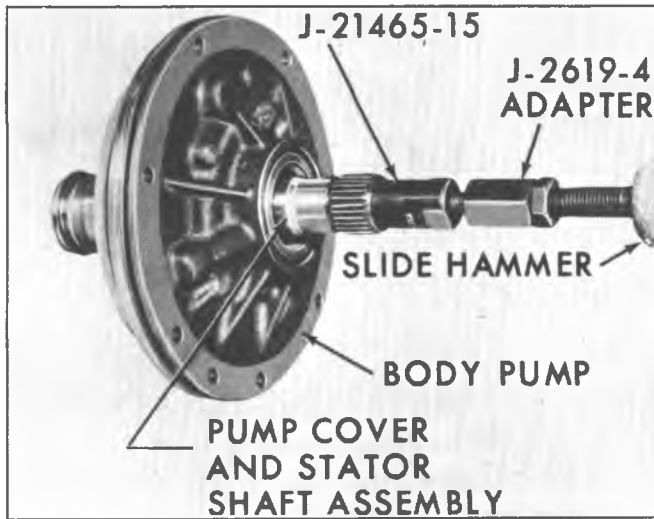
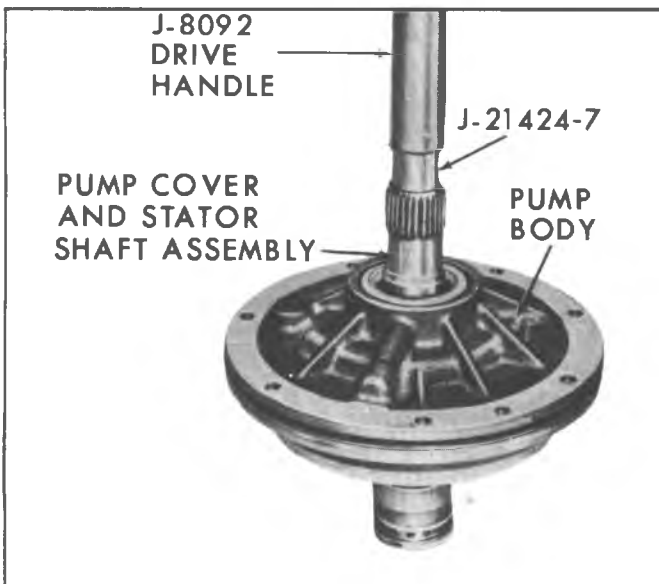
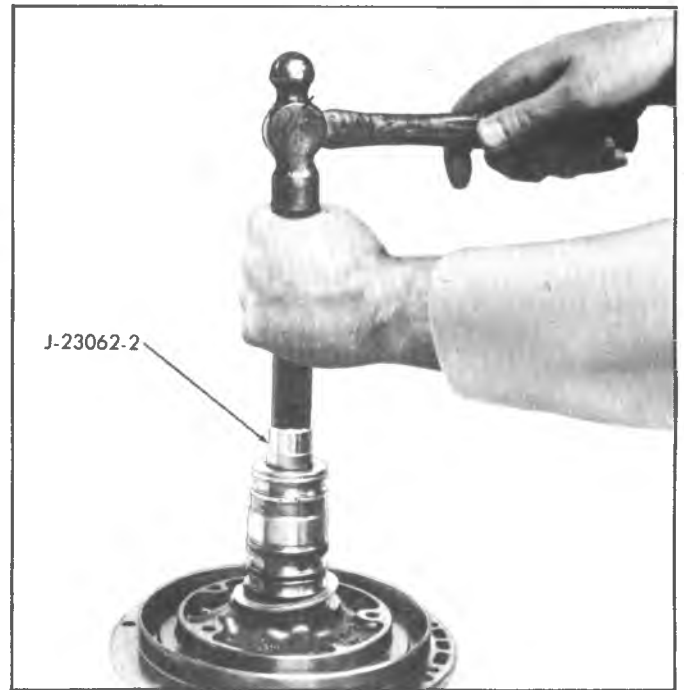
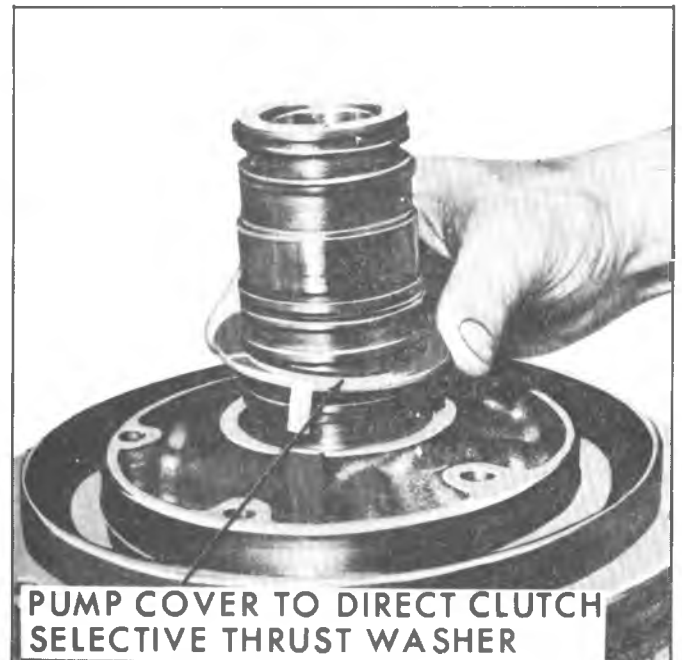

Fig. 90N--Removing Stator Shaft Front Bushing
Fig. 91N--Installing Stator Shaft Front Bushing
Fig. 92N--Installing Inner and Outer Stator Shaft Bushing
Fig. 98N--Pump Cover to Direct Clutch Selective Thrust Washer
With stator shaft properly supported, remove front bushing using tool J-21465-16 and slide hammer with adapter J-2619-01 (fig. 90N). Using tool J-21242-7 and drive handle J-8092, install bushing to .250" from face (fig. 91N).
With stator shaft properly supported, remove front bushing (fig. 92N). Place tool J-21424-7 and drive handle J-8092 with extension J-21465-13 through front of stator shaft and drive out two (2) rear bushings. Using tool J-23062-2 and extension J-21465-13, install inner bushing to approximately 1-5/32" below front face and outer bushing 3/32" below front face (fig. 98N). Install new front bushing (fig. 91N).
- a. Install selective fit thrust washer, (fig. 98N) oil pump gasket and using guide studs from J-3387 set install oil pump. Install two pump to case bolts.